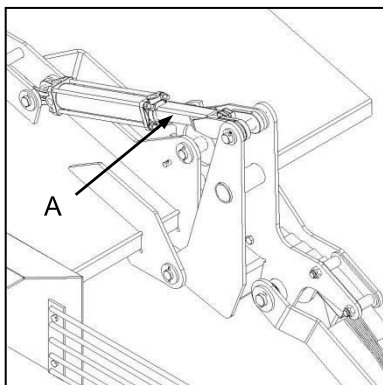

Fig. 7
- ✔ Set the rear height to the maximum setting by operating the height adjustment cylinders and applying the cylinder lock (Fig. 7-A).
- ✔ Stel die agterste hoogte op die maksimum m.b.v. die hoogteverstellingsilinders en dan sluiting van die silinderslot (Fig. 7-A).